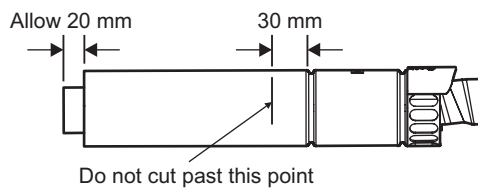

Fig. 5.10
5.7 REDUCING THE FLUE - Fig. 5.10
To reduce the flue length, refer to Fig. 5.10 below.